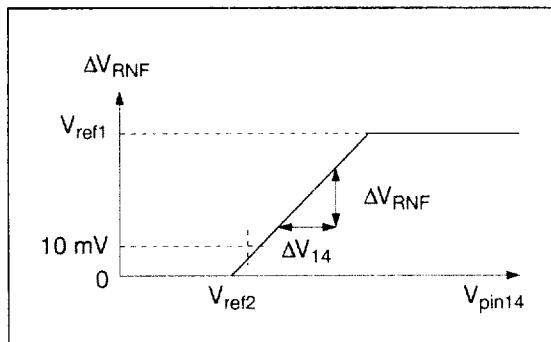

Figure 1
2. Refer to Figure 1. However, $G_{ctl} = \Delta V_{RNF}/\Delta V_{14}$